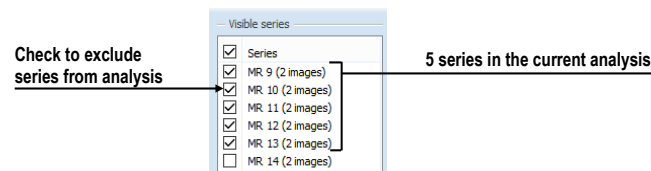

Figure 380 – Series in analysis section in the tool tab
1. In the **Quantitative analyses** tool tab, in **Visible series** list (see Figure 380), find the series which needs to be included or excluded.